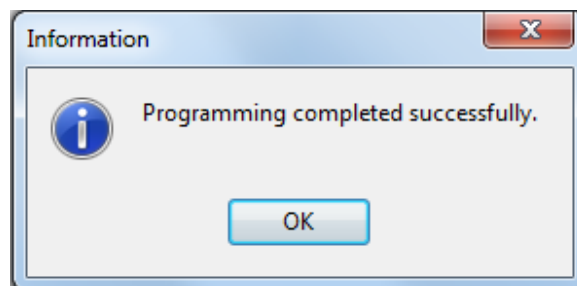

Fig. 28 Finish upload.
- Press: **OK** to finish upload (Fig. 28).